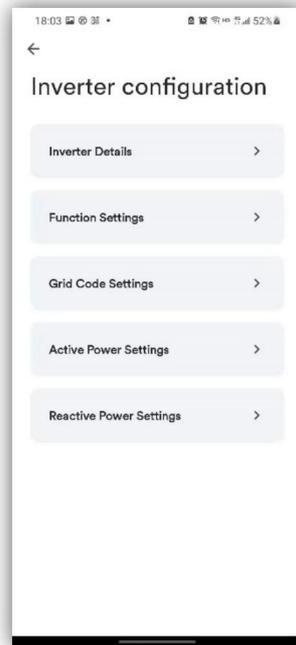

Figure 10.1 Inverter list details
2. As shown in Figure 10.1, the inverter configuration should be set carefully under the guidance of professionals.